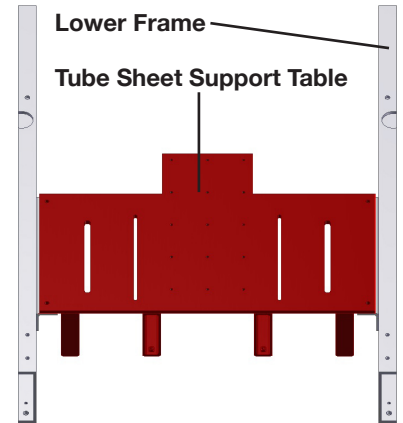

Figure 2
2. Use a forklift to place the Tube Sheet Support Table onto the brackets with the four corner mounting holes aligned with the 3/4” slots on the side brackets (Figure 2). Make sure that the 15” X 8.5” projection at the rear of the Tube Sheet Support Table is placed inward toward the rear of the saw frame. Using 130HL Hex Bolts, 132K Washers, and 170H Nuts, secure the corners of the table onto the brackets.